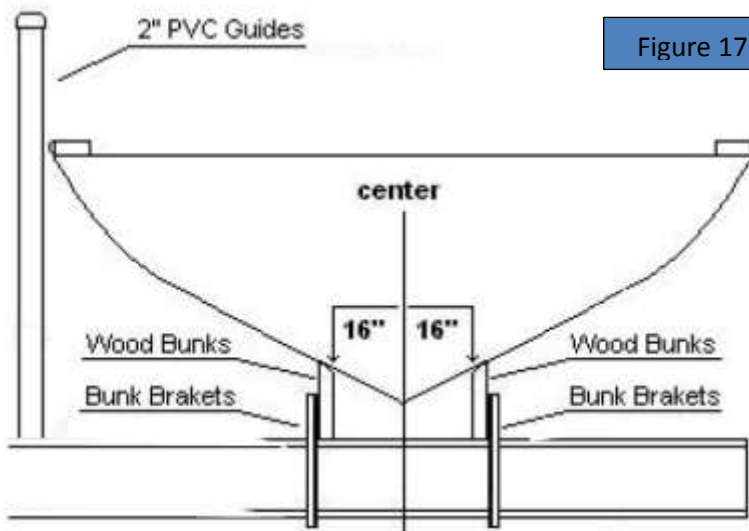

Figure 17
8. Repeat steps 1-7 for the opposite end of the bunk and 2nd bunk, tighten all hardware. (FIGURE 17)